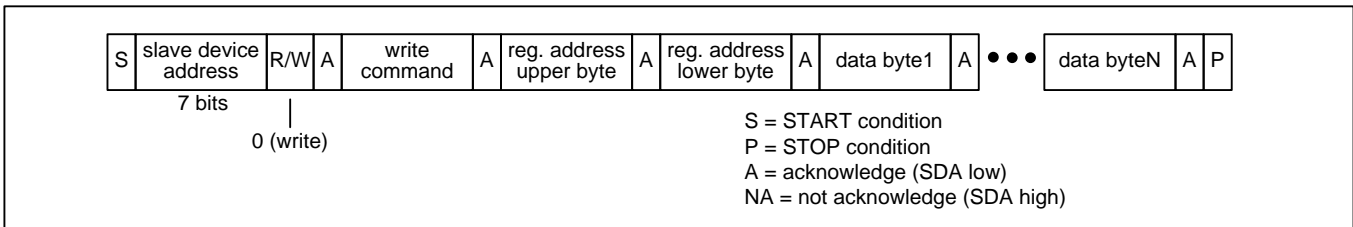

Figure 16 – I²C Register Write Transaction Functional Timing
Register Write Transactions. The device registers are accessible when $EESEL=0$. The bus master does an I²C write to the device. The first three bytes of this transaction are the SPI Write command (see Table 4), the upper byte of the register address, and the lower byte of the register address. Subsequent bytes are data bytes to be written. After each data byte is received, the device writes the byte to the write address and then increments the write address. The bus master terminates the write with a STOP condition (P). See Figure 16.